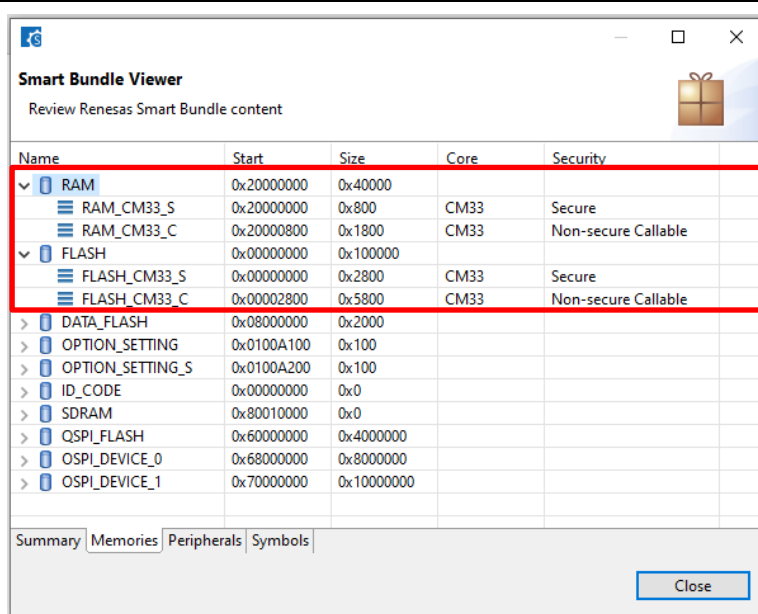

Figure 82. Smart Bundle Viewer
10. Record the RAM_CM33_S, RAM_CM33_C, FLASH_CM33_S, FLASH_CM33_C based on Figure 82. Convert the Size to KB.
13. Launch Device Partition Manager and set up the IDAU region based on the result from Figure 82.